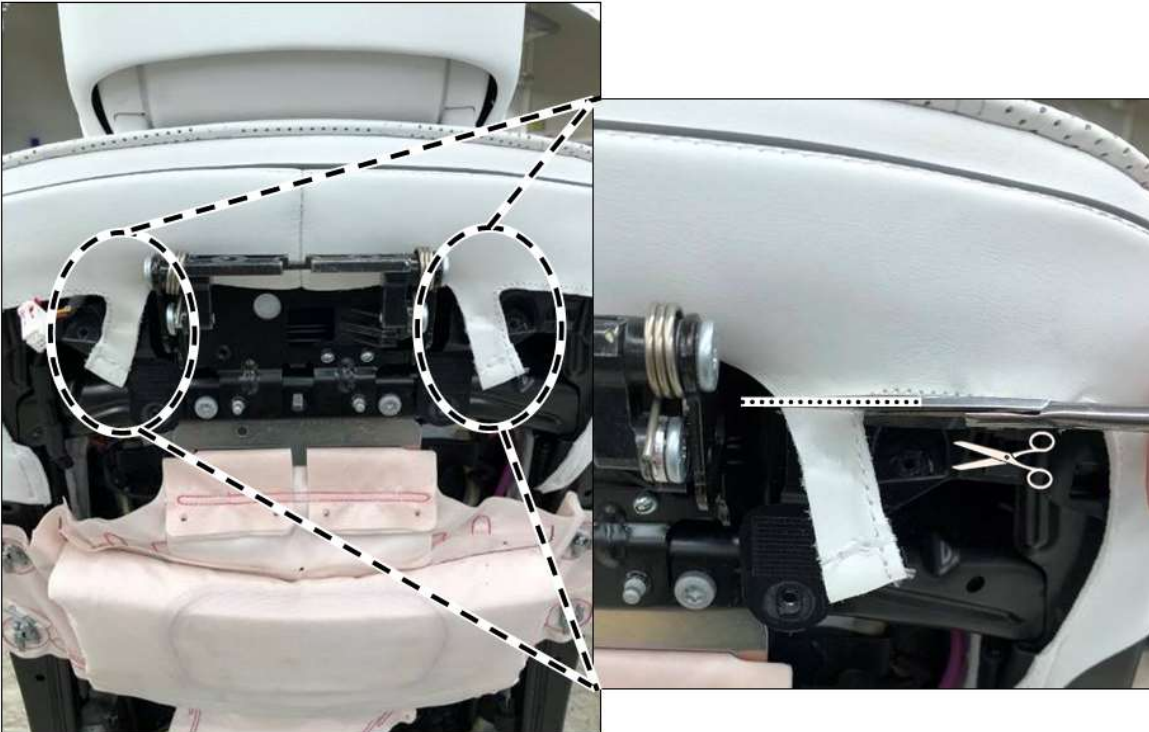

Figure 15
8.1. Cut off retaining tabs on left and right seat cover (figure 15).